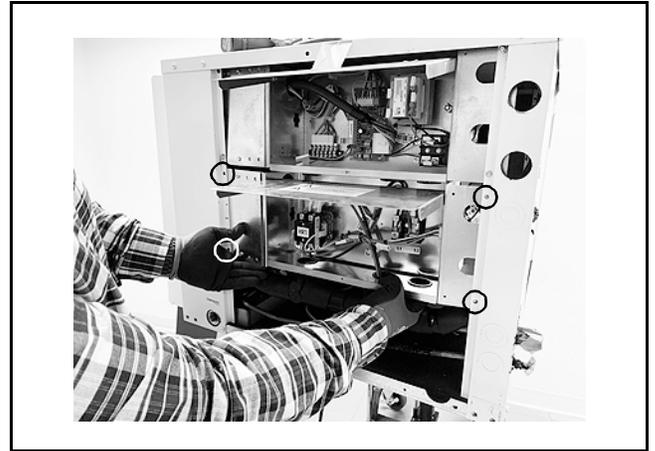

Fig. 26 Align the EH Control Box
5. Align the Electric Heat Control Box up with the mounting holes. Fig. 26 shows the mounting for right-hand configuration.